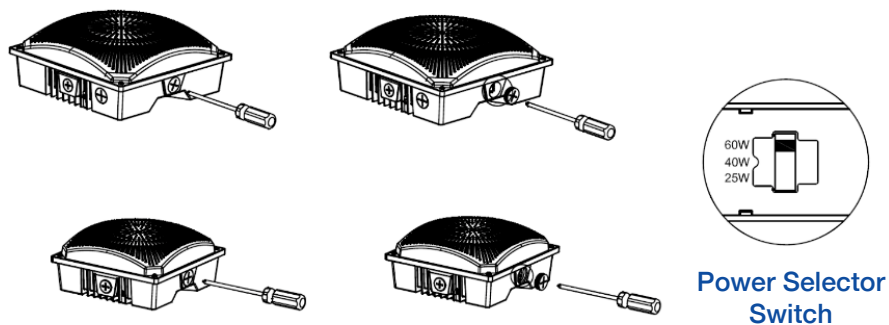
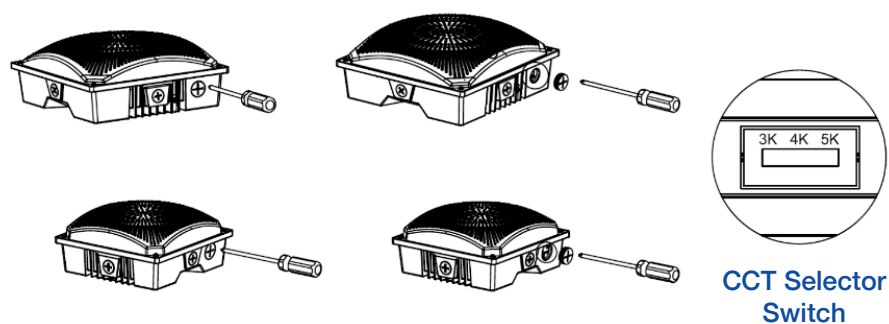

Fig. 4.1
Fig. 4.2
1. Use a screwdriver to remove the plug (Fig 4.1).
2. Select the desired power (Fig 4.1) and colour temperature settings (Fig. 4.2) using the switch.